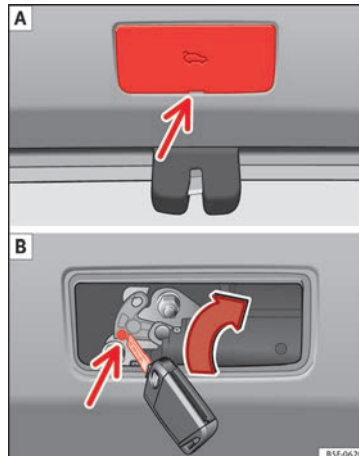

Fig. 7 Luggage compartment: access to manual release.
- Remove the cover by inserting a screwdriver in groove » **Fig. 7 A**.
- Insert the key into the opening and turn it in the direction of the arrow until the latch » **Fig. 7 B** has been released.